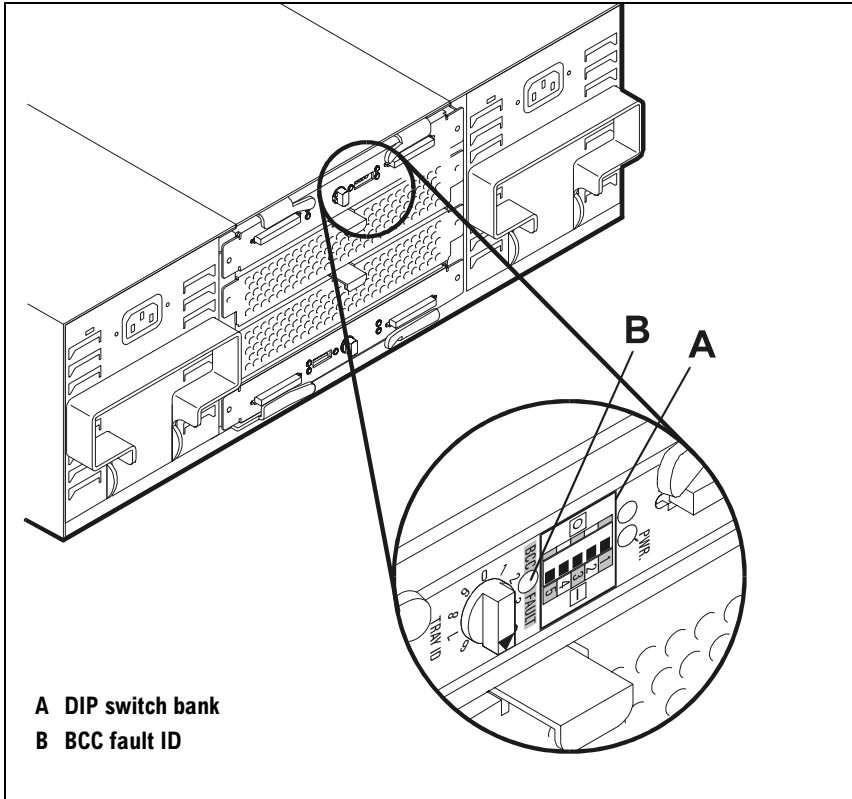

Figure 43 BCC DIP Switches
11. Watch the BCC Fault LED (B in Figure 43). It should come on briefly and then turn off. If the LED stays on and a buzzer sounds, the switch settings do not match the settings on the peer BCC. For other solutions to a BCC fault, see “Isolating Causes” in chapter 4.